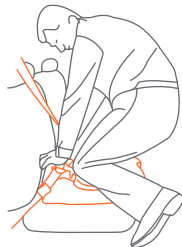

Fig. 40-3
6. Proper installation of the Safety Seat or Base requires that the seat belt be very tight. To tighten the seat belt, push down hard with your knee or hand on the Safety Seat or Base while pulling and tightening the seat belt. **Check that there is no slack in the seat belt on either side of the Safety Seat or Base, or anywhere along the path of the belt, and that the seat belt is tight from end to end** (Fig. 40-3 and 40-4).